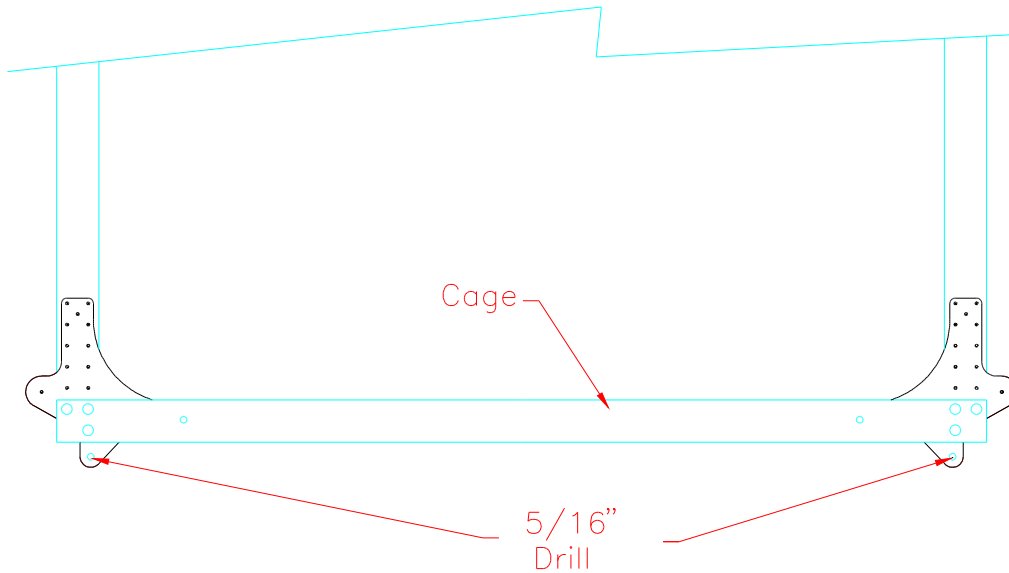

Figure 15.1.1
- 2) Drill out front landing gear attach points to 5/16". Figure 15.1.1.